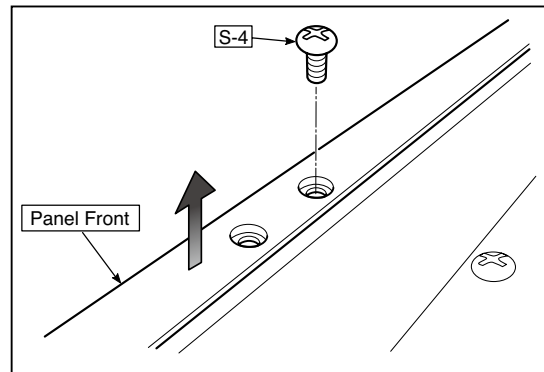

Fig.23
10) Remove the Panel Upper. (See Fig. 23)
- 1.Remove the "S-4" screws shown in the figure 23 and then remove the Panel Front.